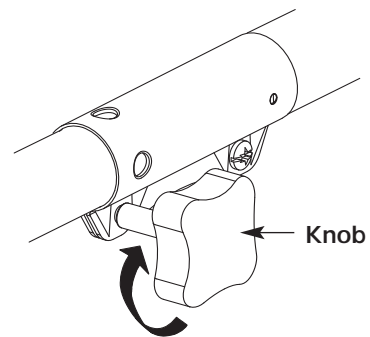

Fig. 3
- Turn the knob clockwise to tighten (Fig. 3).